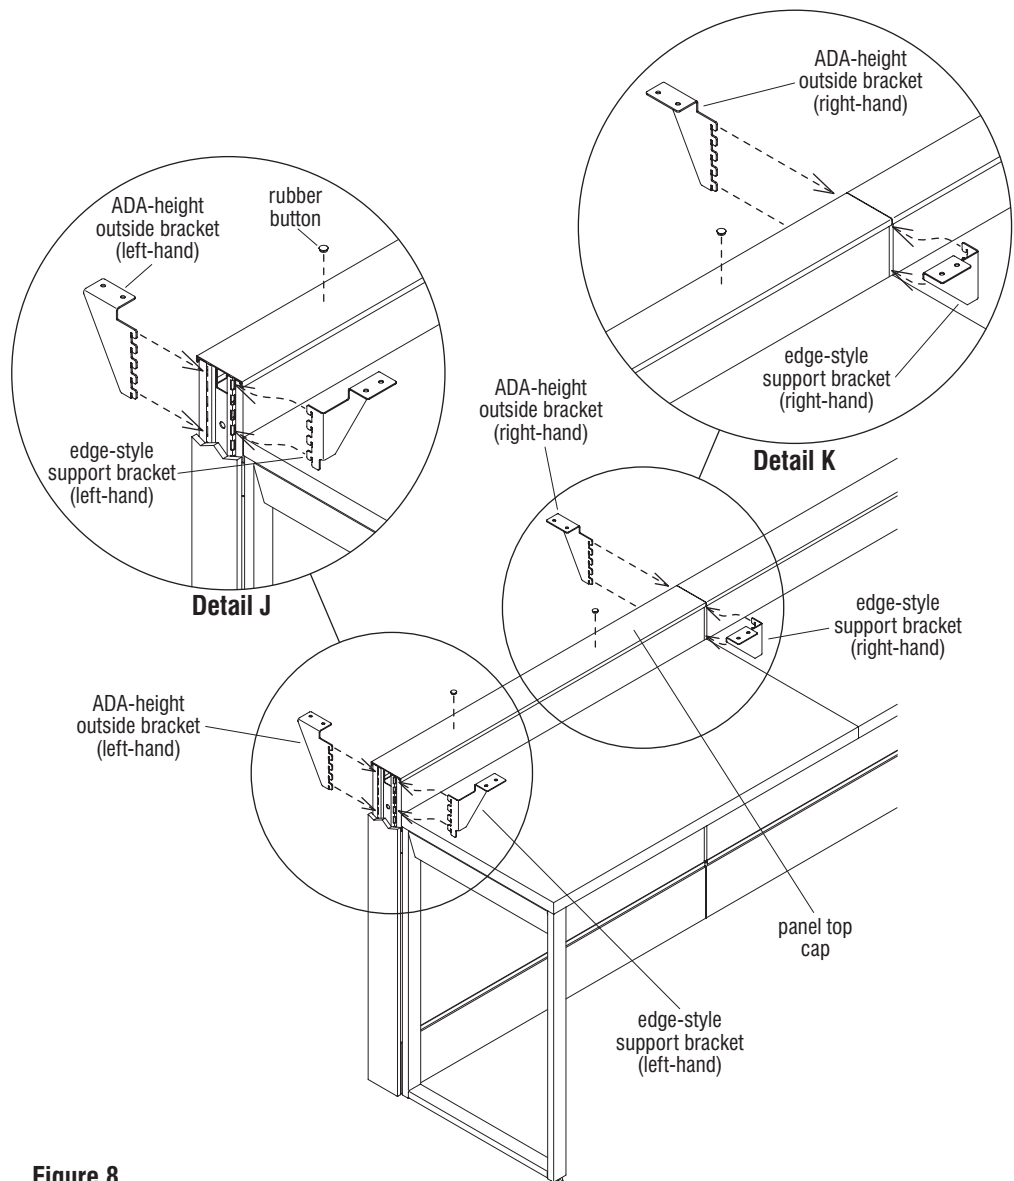

Figure 8
1. Ensure that the Unite Panel top cap is installed prior to attaching bracket pairs and transaction countertop. Install two self-stick rubber buttons to the top of the top cap as illustrated. Spacing of buttons is approximate, and buttons prevent the countertop from incidental contact with the top cap (Figure 8).
Note: An attachment bracket "pair" consists of an edge-style support bracket installed to the "user side" (inside), as well as an ADA-height outside bracket installed to the "aisle side" of the Unite Panel (Figure 8).
to engage all teeth into the slots. The horizontal top of all installed brackets should be about $\frac{1}{8}$ " above the top of the panel top cap. Check bracket for full engagement by pulling straight back firmly in a horizontal motion (Figure 8 & Details J & K).